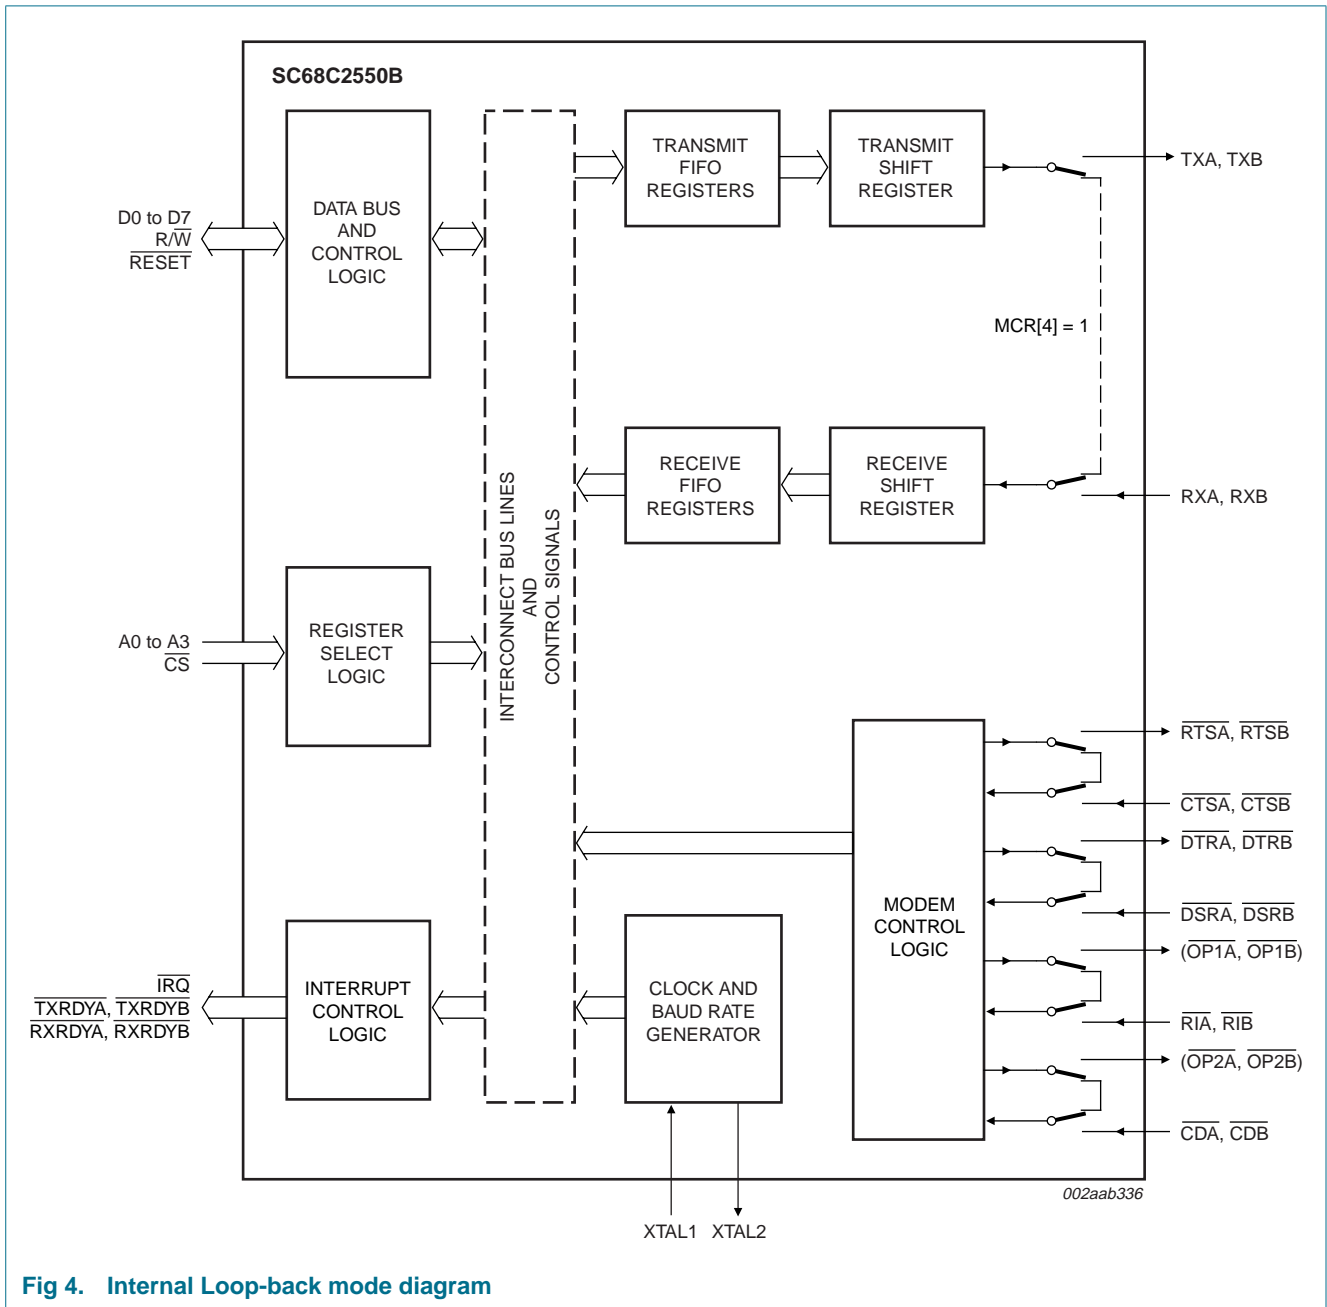

Fig 4. Internal Loop-back mode diagram
The internal loop-back capability allows on-board diagnostics. In the Loop-back mode, the normal modem interface pins are disconnected and reconfigured for loop-back internally (see Figure 4). MCR[3:0] register bits are used for controlling loop-back diagnostic testing. In the Loop-back mode, the transmitter output (TX) and the receiver input (RX) are disconnected from their associated interface pins, and instead are connected together internally. The $\overline{\text{CTS}}$, $\overline{\text{DSR}}$, $\overline{\text{CD}}$, and $\overline{\text{RI}}$ are disconnected from their normal modem control inputs pins, and instead are connected internally to $\overline{\text{RTS}}$, $\overline{\text{DTR}}$, MCR[3] ($\overline{\text{OP2}}$) and MCR[2] ($\overline{\text{OP1}}$). Loop-back test data is entered into the transmit holding register via the user data bus interface, D0 to D7. The transmit UART serializes the data and passes the serial data to the receive UART via the internal loop-back connection. The receive UART converts the serial data back into parallel data that is then made available at the user data interface D0 to D7. The user optionally compares the received data to the initial transmitted data for verifying error-free operation of the UART TX/RX circuits.